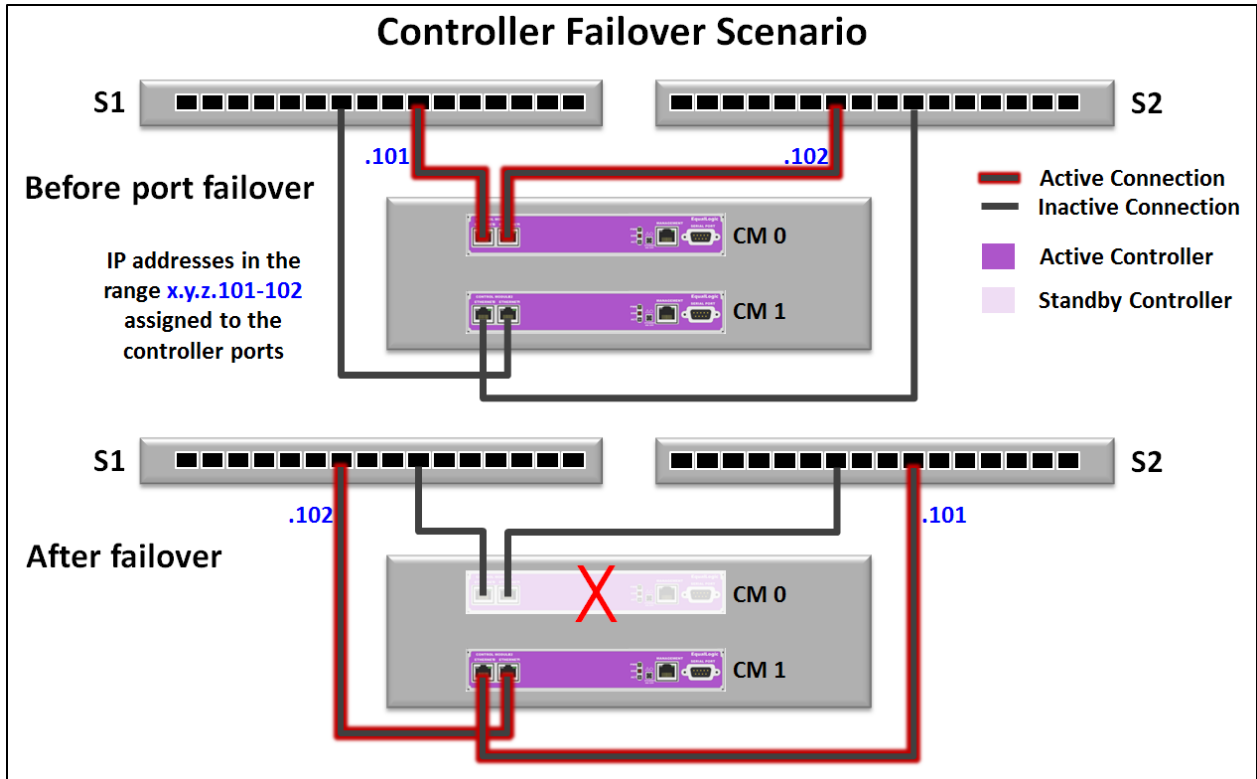

Figure 3 Controller failover process and optimal connection paths
It is important to ensure that ports from each controller are connected to at least two different switches. This will prevent a switch failure from also disabling all paths between a host and its connected volumes. We illustrate controller failover behavior for the PS4100 family controller in Figure 3. Controller failover behavior for the PS6100 (4 port) controller family is identical.
**IMPORTANT:** To prevent a switch failure from also disabling all paths between a host and its connected volumes, you should make sure that ports from each controller are connected to at least two different switches. **You should also split vertical port pair connections between two switches to ensure 100% bandwidth capability is maintained in the event of a vertical port failover event.** Both of these guidelines are illustrated in Figure 3.